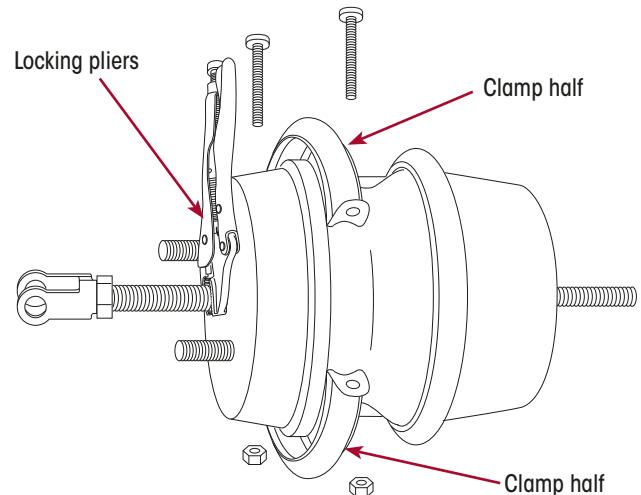

Figure 103: Remove Clamp Assembly
9. Firmly clamp the service push rod with a set of locking pliers to prevent release of the service brake chamber spring, which would hinder chamber reassembly. Refer Figure 103.
10. Remove bolts and clamp from service brake chamber. Refer Figure 103.